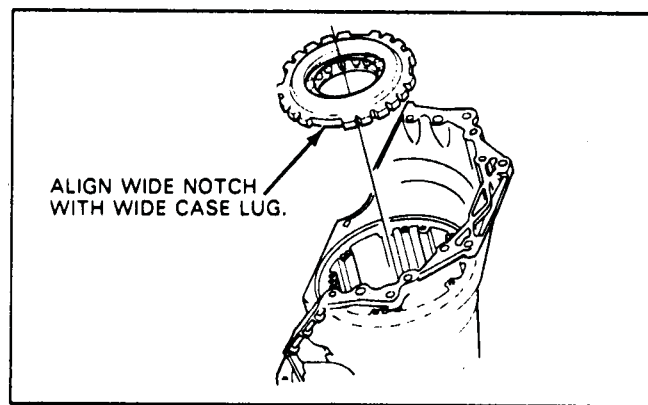

Figure 76
9. Install the complete support assembly into the case as shown in Figure 76, and tap into place with light hammer.